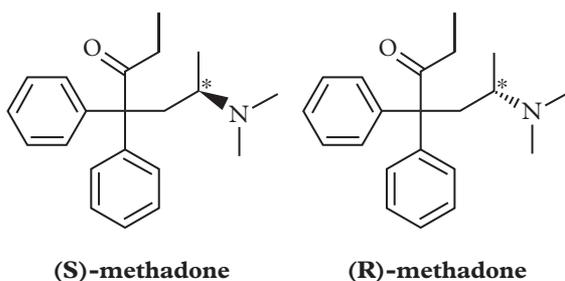

FIGURE 5 (R)-methadone is much more effective than (S)-methadone.
Methadone is a powerful opioid pain relief medication. It has one chiral centre (Figure 5). The (R) stereoisomer binds 20 times better to the opioid receptor in the body than the (S) stereoisomer.